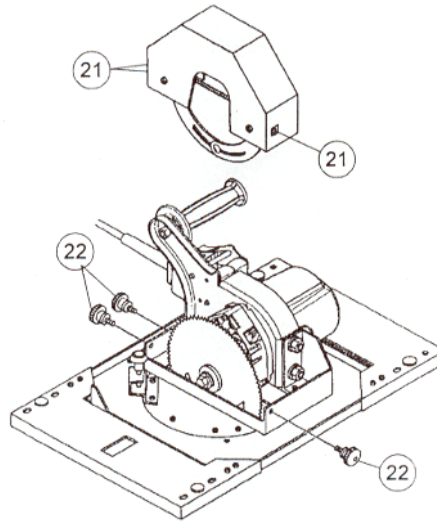
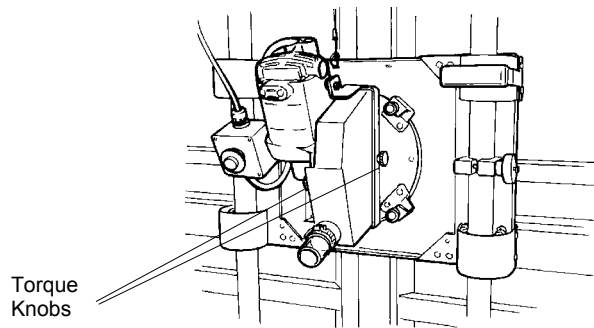

Figure 8: Installing the Blade Guard (Models C-4, H-4, H-5, H-6)
Figure 9: Installing the Blade Guard (Models 6400, 6800)
The blade guard (Figure 8 or Figure 9) is in the box marked "Saw Motor." Always install the blade guard before operating the saw. The guard is shipped with two or three red torque knobs (22) installed, depending on the model. Remove the knobs to install the guard. Be sure to leave the rubber washers on the torque knobs, because they prevent the knobs from slipping.